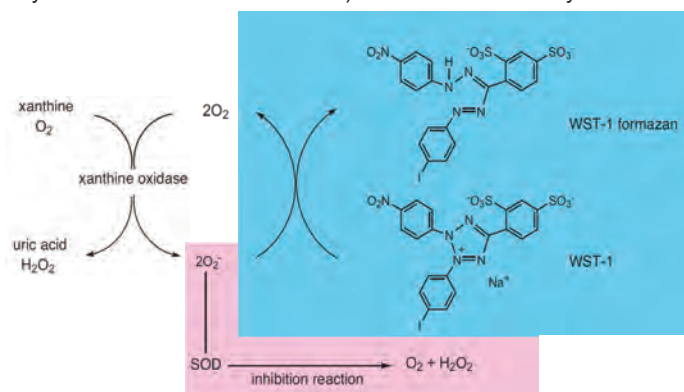

Fig.1 Principle of the determination of SOD activity using SOD Assay Kit - WST
Superoxide dismutase (SOD), which catalyzes the dismutation of the superoxide anion ($O_2^{\cdot -}$) into hydrogen peroxide and molecular oxygen, is one of the most important antioxidative enzymes. In order to determine SOD activity, several direct and indirect methods have been developed. Among these methods, the indirect method using nitroblue tetrazolium (NBT) is commonly used due to the convenience and ease to use. However, there are several disadvantages in the NBT method, such as poor water solubility of the formazan dye and the interaction with the reduced form of xanthine oxidase. SOD Assay Kit-WST allows very convenient SOD assay by utilizing Dojindo's highly water-soluble tetrazolium salt, WST-1 (2-(4-Iodophenyl)-3-(4-nitrophenyl)-5-(2,4-disulfophenyl)-2H-tetrazolium, monosodium salt) that produces a water-soluble formazan dye upon reduction with the superoxide anion. The rate of the reduction of WST-1 with $O_2^{\cdot -}$ are linearly related to the xanthine oxidase (XO) activity, and this reduction is inhibited by SOD, as shown in Fig. 1. Therefore, the IC_{50} (50% inhibition activity of SOD or SOD-like materials) can be determined by the colorimetric method (Patent filing).